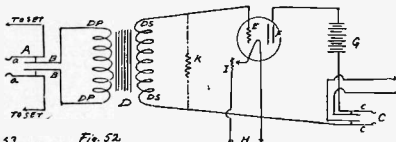

Fig. 52
**A**mplifiers, which are devices designed to increase the volume of sound, are very simple affairs and while they may be bought ready-made any person can construct one in a few hours at much less cost. The most expensive part of an amplifier is the bulb or *vacuum-tube* and as such tubes as Myers are much cheaper than others and are exactly as good for amplification, though less efficient in the sending set—money can be saved by using them. A one step amplifier, on such a set as has been described above, will greatly increase the clearness and loudness of messages and by adding two or more, and using a loud tone horn or phone, music, singing, etc., can be produced to fill a large room or hall. In using two or more steps of amplifiers it is merely necessary to duplicate the first, which is shown in *Fig. 52*. The only thing to be borne in mind is **ALWAYS TO TURN THE TRANSFORMERS**